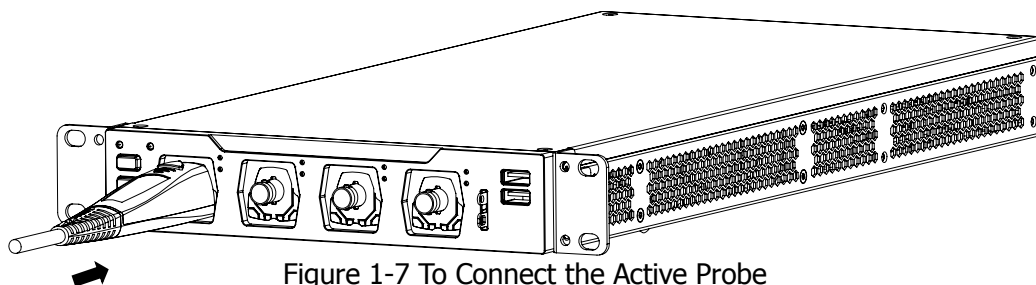

Figure 1-7 To Connect the Active Probe
2. Connect the other end of the preamp to an analog channel input terminal of the oscilloscope on the front panel, as shown in Figure 1-7. Note that you should push the probe to the end to ensure that it is tightly connected.